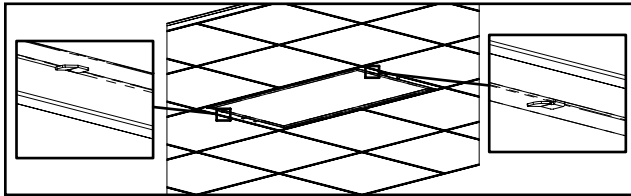

Figure 18.
18. Rotate the left and right latches on the LED Panel (C) into the closed position (Fig. 18).